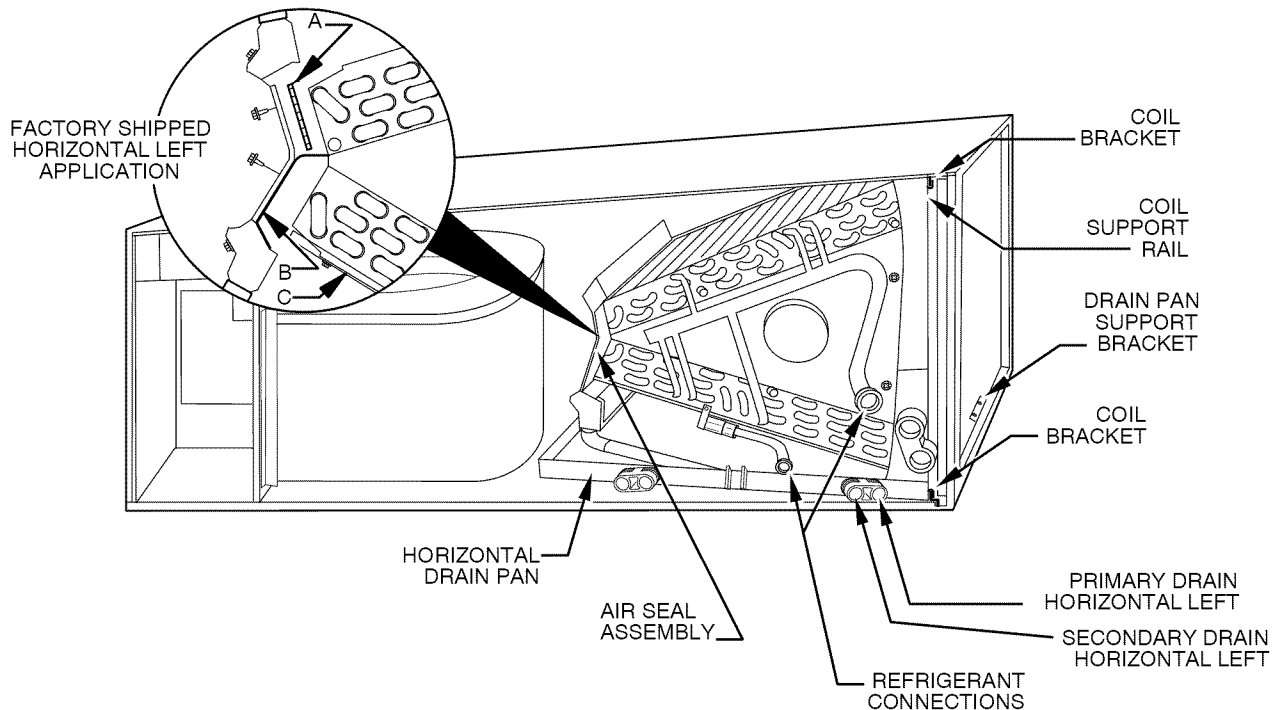

Figure 7 Mobile Home or Manufactured Housing Applications
- b. If fan coil is against wall, secure fan coil to wall stud using 1/8" thick right-angle brackets. Attach brackets to fan coil using No. 10 self tapping screws and to wall stud using 5/16" lag screws. (Refer to **Figure 7**)